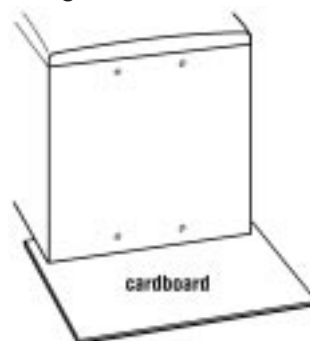

Fig. 2-2
7. Protect the floor with a large piece of cardboard cut from the pedestal carton. Lay the washer on its back so that the cardboard is under the entire lower back edge of the washer. (Fig. 2-2) Go to "Installing the Pedestal".